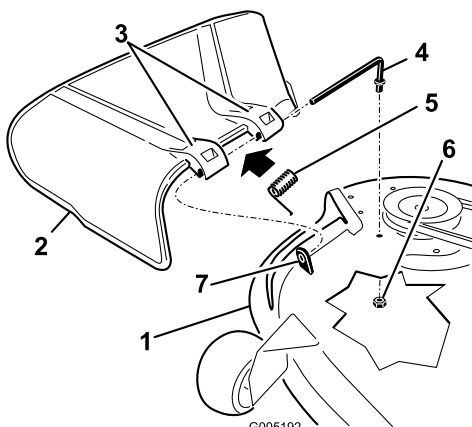

Figure 48
1. Locate items shown in Figure 48.
2. Remove the nut (3/8 inch) from the rod under the mower (Figure 48).
3. Slide the rod out of the short stand-off, internal lock washer, spring, and grass deflector (Figure 48). Remove the damaged or worn grass deflector.
4. Replace the grass deflector and internal lock washer (Figure 48).
6. Place the spring on the rod, with end wires down, and between the grass deflector brackets. Slide rod through second grass deflector bracket and internal lock washer (Figure 48).
7. Insert rod at front of grass deflector into short stand-off on deck. Secure rear end of rod into the mower with a nut (3/8 inch) (Figure 48).